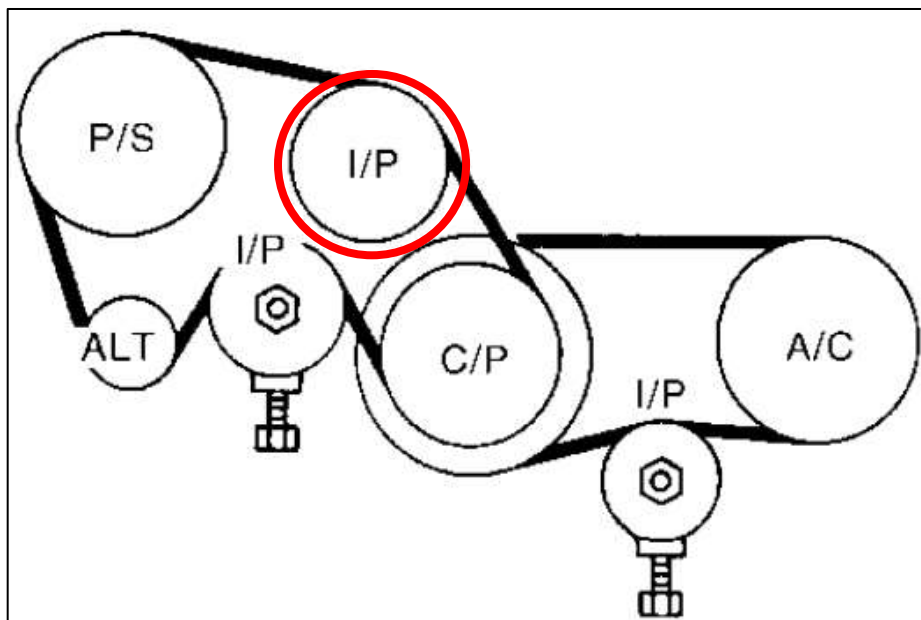

Figure 9
23. Loosen the (4) four bolts on the Upper Idler Pulley if your Vehicle is equipped with it, it is easier to do with the belt tensioned. Some later model DE Engines do not have this Pulley. *Figure 9.*
NOTE: *Figure 9* below shows the Drive Belt removed, **DO NOT** remove the Drive Belt before loosening all (4) four bolts on the Idler Pulley.